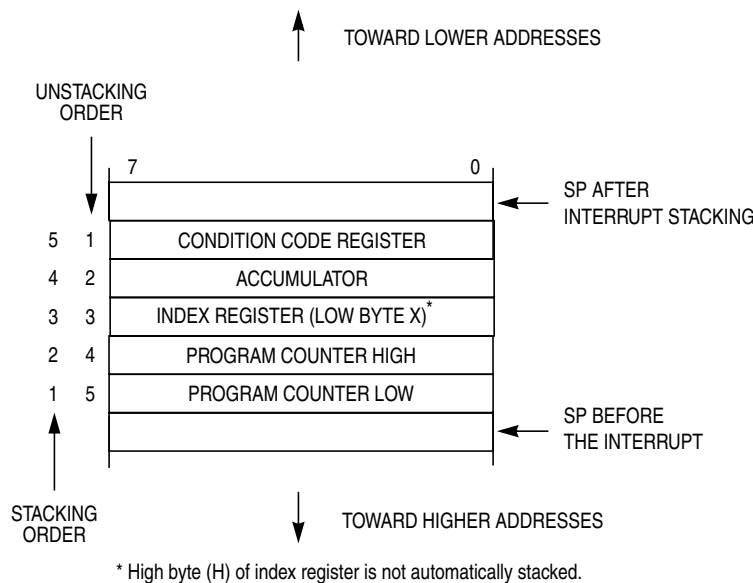

Figure 5-1 Interrupt Stack Frame
Figure 5-1 shows the contents and organization of a stack frame. Before the interrupt, the stack pointer (SP) points at the next available byte location on the stack. The current values of CPU registers are stored on the stack starting with the low-order byte of the program counter (PCL) and ending with the CCR. After stacking, the SP points at the next available location on the stack which is the address that is one less than the address where the CCR was saved. The PC value that is stacked is the address of the instruction in the main program that would have executed next if the interrupt had not occurred.